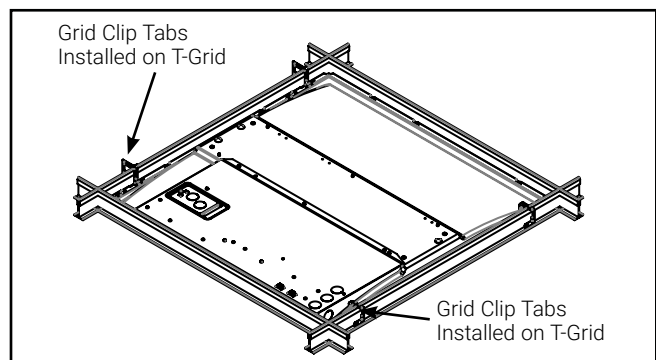

Figure 2.
3. Grid lock tabs are provided on end plates. Fold out 90° as shown (Figure 2).